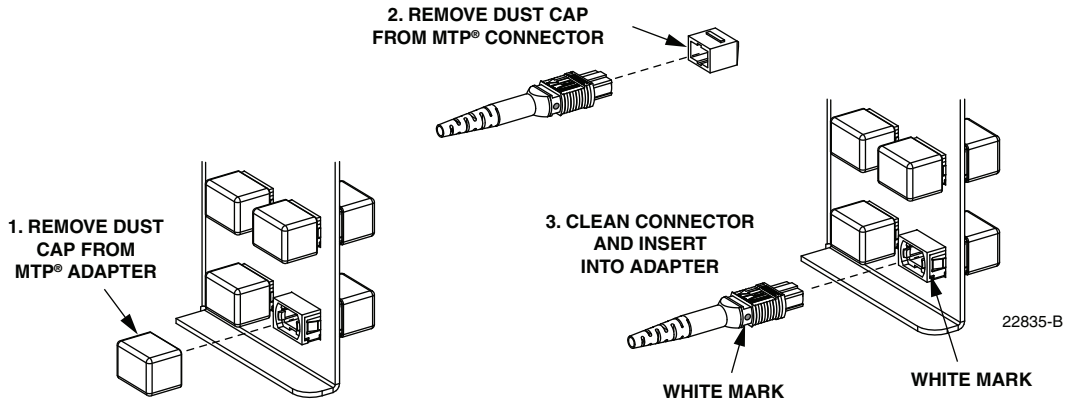

Figure 70. Connecting MPO Connector to MPO Adapter
6. Remove the dust caps from the bulkhead adapters and the subunit MPO connectors as shown in Figure 70.